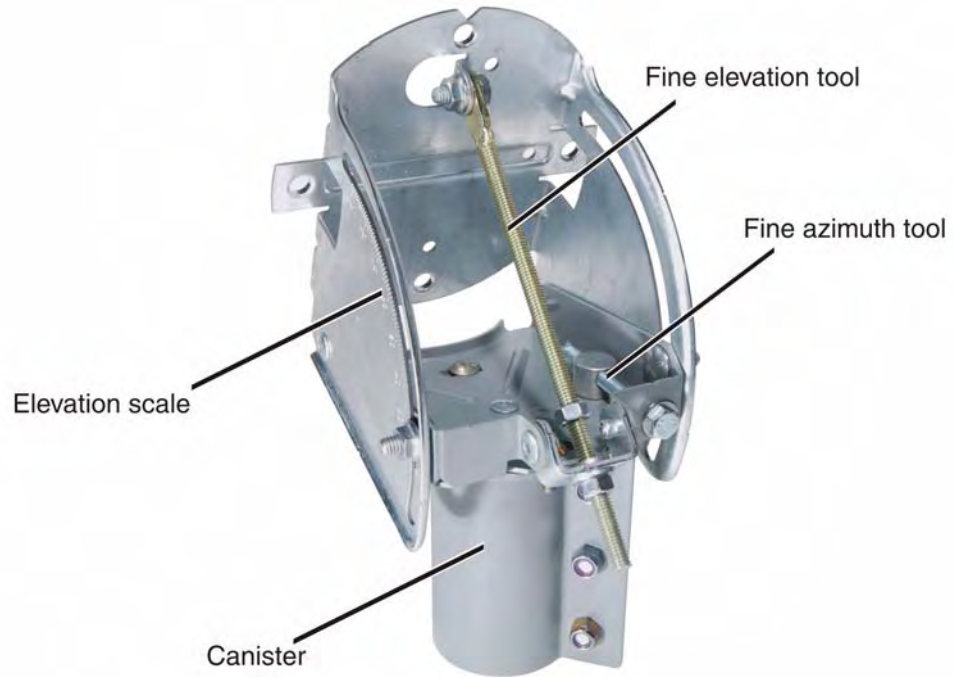

Figure 3: Az/El mount assembly
**Az/El mount assembly** The *Az/El mount assembly*, shown in Figure 3, consists of the Az/El canister, the elevation scale, and the fine azimuth and fine elevation tools. The Az/El canister supports the antenna. The elevation scale is used to coarse-point the antenna in the azimuth plane. The fine azimuth and elevation tools are used to finely adjust the azimuth and elevation of the reflector during antenna pointing.